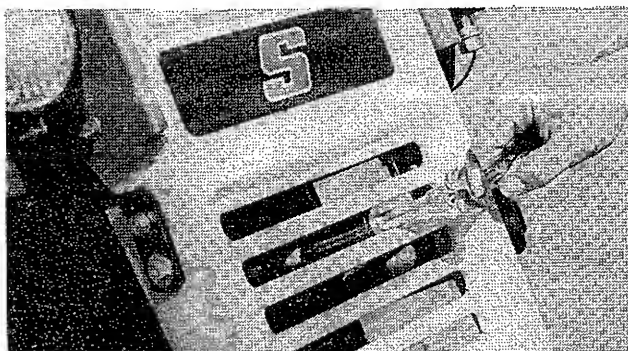

FIGURE 26
1. Remove the spark plug, clean or replace and set the gap at .030". DO NOT SAND BLAST PLUGS, AS THE ABRASIVE PARTICLES LEFT ON THE PLUG MAY DAMAGE THE ENGINE. Plugs may be cleaned by scraping or wire brushing and washing in a solvent or gasoline. (Figure 26)